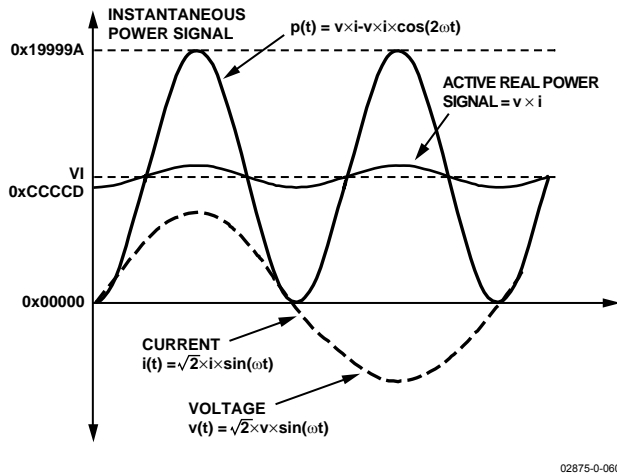

Figure 37. Active Power Calculation
Note that the active power is equal to the dc component of the instantaneous power signal $p(t)$ in Equation 9, i.e., VI . This is the relationship used to calculate active power in the ADE7169F16. The instantaneous power signal $p(t)$ is generated by multiplying the current and voltage signals. The dc component of the instantaneous power signal is then extracted by LPF2 (low-pass filter) to obtain the active power information. This process is illustrated in Figure 37.
The ADE7169F16 also incorporates an active power offset register (WATTOS[15:0]). This is a signed twos complement 16-bit register that can be used to remove offsets in the active power calculation—see Figure 37. An offset could exist in the power calculation due to crosstalk between channels on the PCB or in the IC itself. The offset calibration allows the contents of the active power register to be maintained at 0 when no power is being consumed.
As mentioned in the last section, the discrete time sample period (T) for the accumulation register is 1.22 μs (5/CLKIN). With full-scale sinusoidal signals on the analog inputs and the WGAIN register set to 0x000, the average word value from each LPF2 is 0xCCCCD—see Figure 37. The maximum positive value that can be stored in the internal 49-bit register is 2⁴⁸ or 0xFFFF,FFFF,FFFF before it overflows. The integration time under these conditions with WDIV = 0 is calculated as follows: